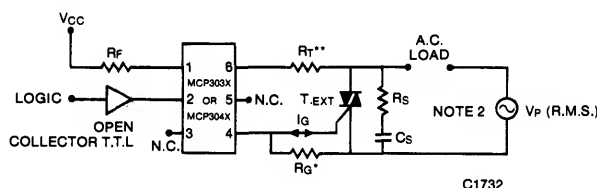

Figure 8 For Load Current I_L > 50mA RMS — Interface Via External Triac (T_{EXT})
Typical Snubber Values — Fig. 8. Circuit Driving Inductive Load:
1. MCP304X and T_{EXT} V_{DRM} ≥ 400 V recommended for 120 V Inductive Loads - Fig. 8